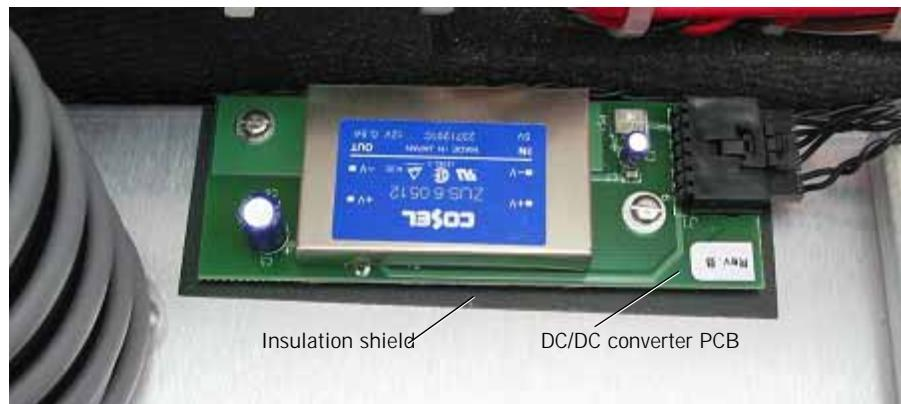

Figure 9-95: Adhesive-Backed Insulation Shield on Power Supply Shroud
16. Reattach the power supply shroud. Replace the backlight inverter PCB with the DC/DC converter PCB on the power supply shroud. Apply the adhesive-backed insulation shield to the power supply shroud before mounting the DC/DC converter PCB (Figure 9-95).